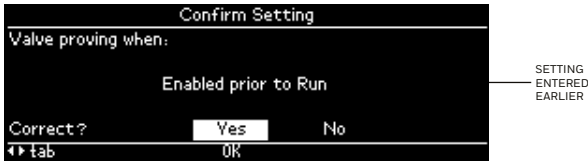

Fig. 72. Confirm valve proving when option
- Valve Proving (VP) when confirmation (when VP is disabled and postpurge time is not supported in BC) – see Fig. 72
- Valve Proving (VP) when confirmation (when postpurge time is not supported in BC) – see Fig. 72